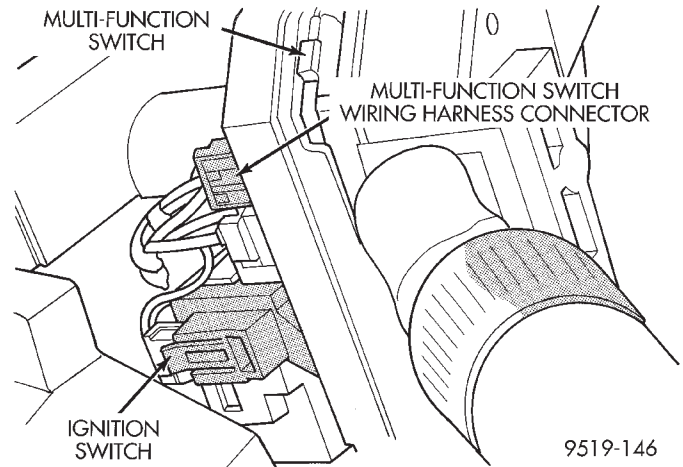
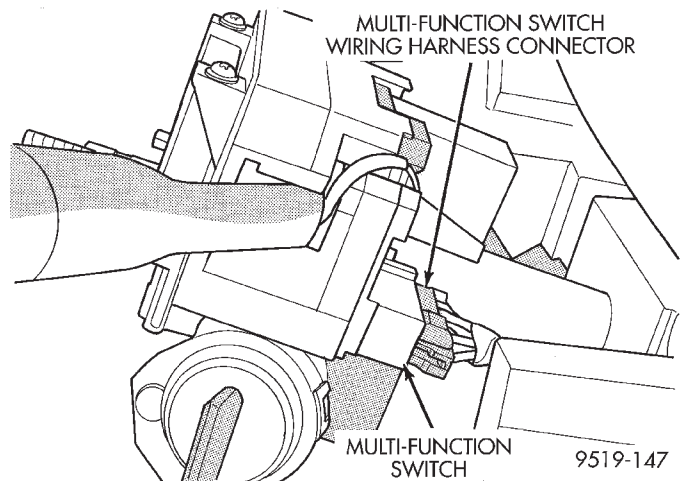

Fig. 17 Wiring Harness Connections To Ignition And Multi-Function Switch
Fig. 18 Wiring Harness Connection To Multi-Function Switch
(23) Remove the multi and 2 wire wiring harness connectors from the back of the ignition switch (Fig. 17). Then remove the 2 wiring harness connector from the multi function switch (Fig. 17) and (Fig. 18).
(6) Route wiring harness on steering column and install routing clip in bottom of steering column jacket.
(7) Install multi and 2 wire wiring harness connectors on the back of the ignition switch (Fig. 17). Then install the 2 wiring harness connectors on the multi function switch (Fig. 17) and (Fig. 18).